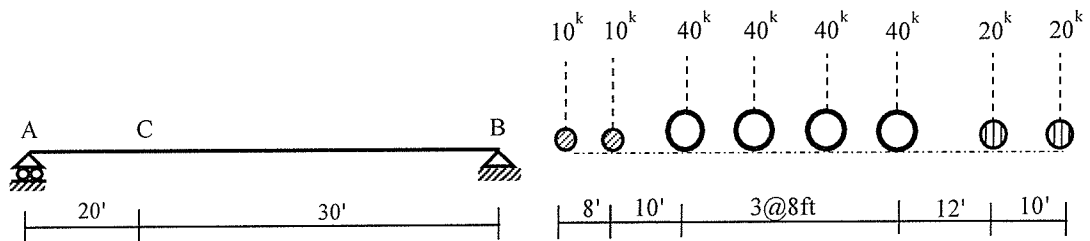

Fig.5
4. For the wheel load arrangement shown in Fig.5 [10]